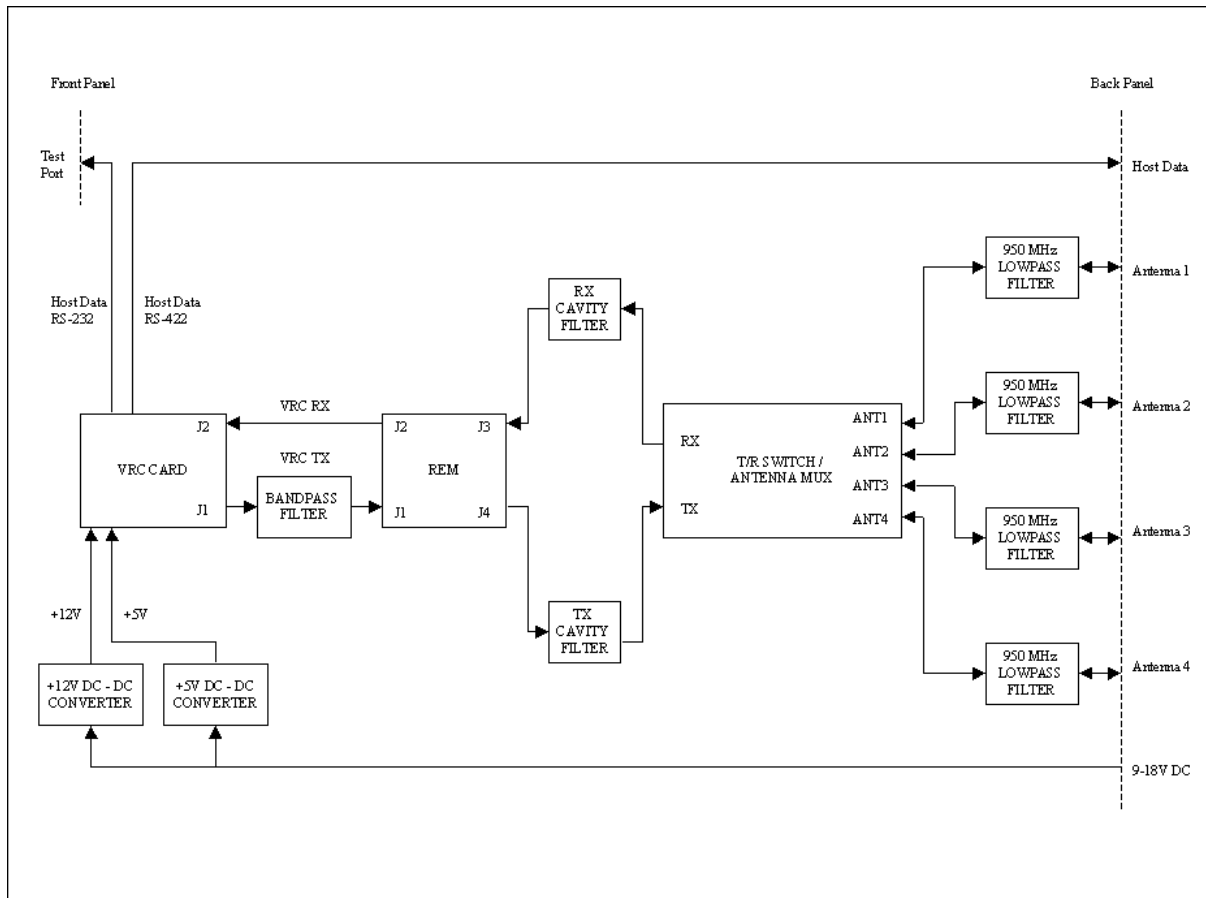

Figure 1-Class A/B Reader Functional Block Diagram
The Reader is an automatic vehicle identification systems that transmits and receives radio frequency (RF) data to/from transponder-equipped vehicles or assemblies. The Reader works in conjunction with a host computer system to identify a passing transponder, verify its operating credentials (if applicable), communicate to the driver whether the vehicle is cleared or not (if applicable), and transmit the transponder's data package to the next appropriate station (dependent of the type of system connected to the Reader). The Reader's functional block diagram, shown in Figure 1, illustrates the interconnections between the assemblies in the Reader's sealed chassis.